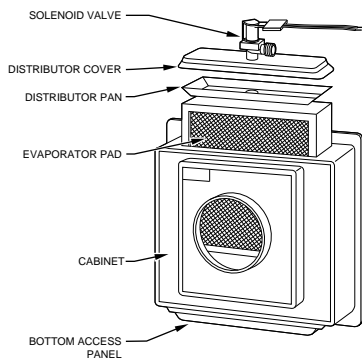

Fig. 6 — Model HUMCCLBP2018-A--
- On a Model HUMCCLBP or Model HUMCCLFP humidifier, loosen the thumbscrew that holds the distributor cover to the top of the cabinet. Lift up the distributor cover slightly to make certain that water is flowing from the solenoid valve into the distributor pan. Do not lift the cover off the cabinet more than 1 in. when water is flowing. (See Fig. 6 or 7 according to the model you own.)
• To disassemble either a Model HUMCCLBP or Model HUMCCLFP humidifier, first remove the water supply connection to the solenoid valve. Next, remove the screw that holds the distributor cover to the cabinet, and lift off the cover. Disconnect the drain line from the sump and loosen the thumbscrew(s) holding the sump to the cabinet. Remove the sump. Remove evaporator pad assembly. (See Fig. 6 or 7, according to the model you own.)